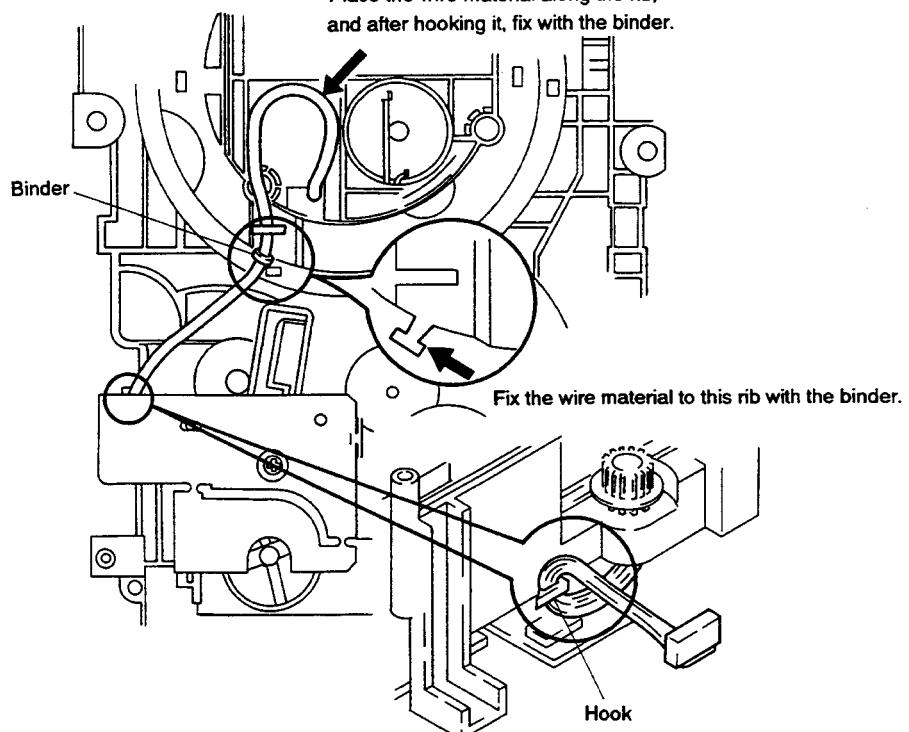

Fig. 2-17
(1) Bend the wires as shown in Fig. 2-17.